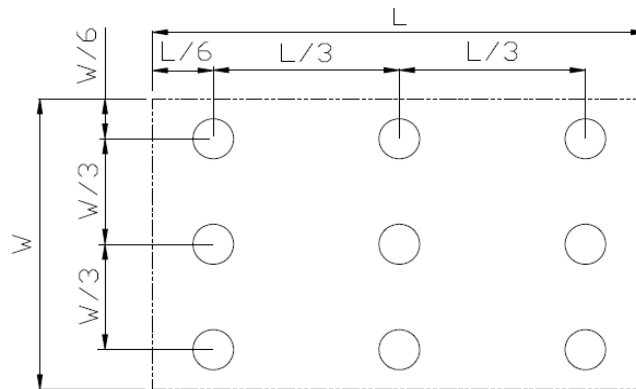

Figure 4. Luminance Uniformity Measurement Locations (9 points)
- Active area is divided into 9 measuring areas (Refer Fig.4). Every measuring point is placed at the center of each measuring area.
- Luminance Uniformity (U) = L_{min} / L_{max}